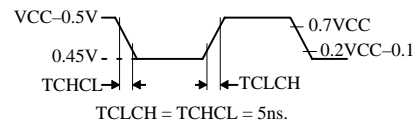

Figure 11 Clock Signal Waveform for ICC Tests in Active and Idle Modes
- Operating ICC is measured with all output pins disconnected; XTAL1 driven with TCLCH, TCHCL = 5 ns (see Figure 11), VIL = VSS + 0.5V, VIH = VCC - 0.5V; XTAL2 N.C.; $\overline{\text{EA}}$ = RST = Port 0 = VCC. ICC would be slightly higher if a crystal oscillator used (see NO TAG).